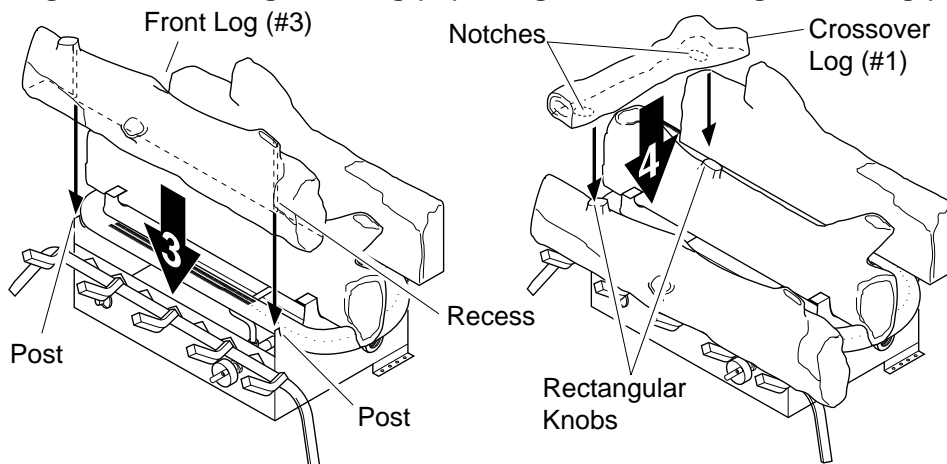

Figure 17 - Installing Front Log (#3) **Figure 18 - Installing Crossover Log (#4)**
3. Locate the recesses on the back of the front log (#3). Fit these recesses between the posts of the grate base (see Figure 17).